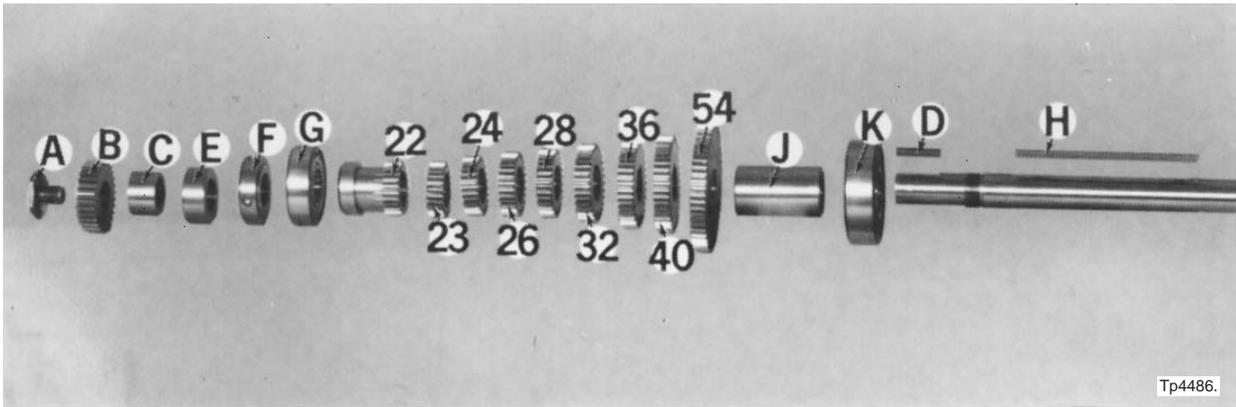

Figure 4.30 - Cluster Shaft Assembly
- a) Remove stud "A", Figure 4.30, gear "B", and spacer "C".
- a) Press bearing “K”, Figure 4.30, onto the shaft.